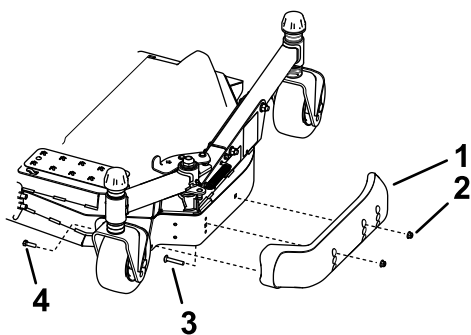

Figure 7
3. Loosen the screw at the front of each skid (Figure 7).
5. Move each skid to the desired position and secure them with the flange-head bolts and nuts (Figure 7).